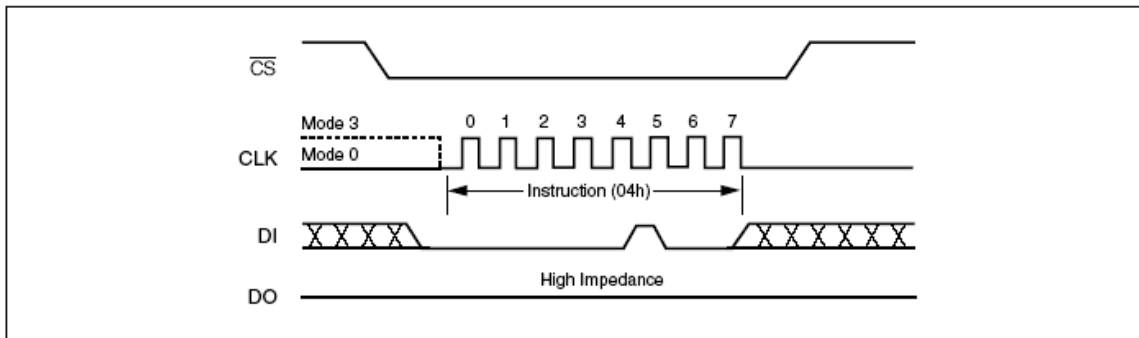

Figure 6. Write Disable Instruction Sequence Diagram
The Write Disable instruction (Figure 6) resets the Write Enable Latch (WEL) bit in the Status Register to a 0 or exit from OTP mode to normal mode. The Write Disable instruction is entered by driving Chip Select (CS#) low, shifting the instruction code “04h” into the DI pin and then driving Chip Select (CS#) high. Note that the WEL bit is automatically reset after Power-up and upon completion of the Write Status Register, Page Program, Sector Erase, Block Erase (BE) and Chip Erase instructions.